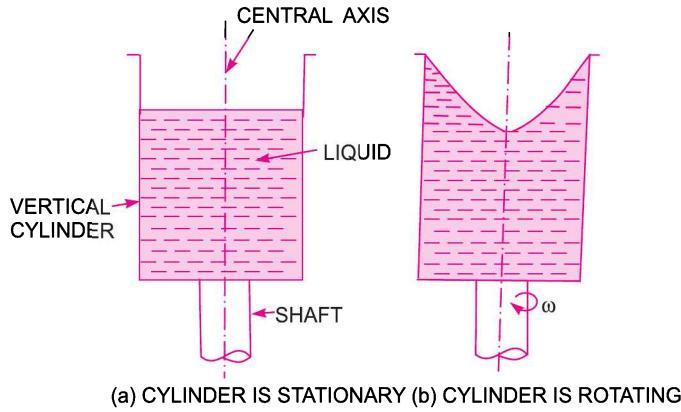

Fig. 5.12 *Forced vortex flow.*
1. A vertical cylinder containing liquid which is rotated about its central axis with a constant angular velocity ω , as shown in Fig. 5.12.